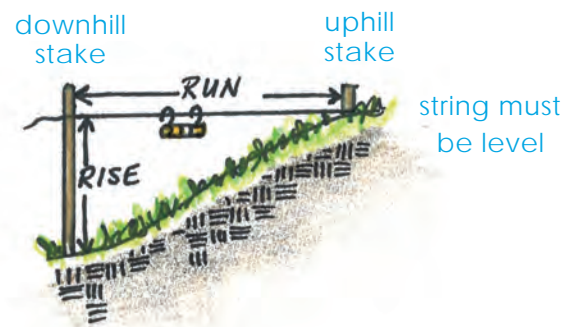

Figure 1. Determine the slope of the landscape before digging.
- Place one stake at the uphill end of the rain garden area and another at the downhill end as illustrated in Figure 1.